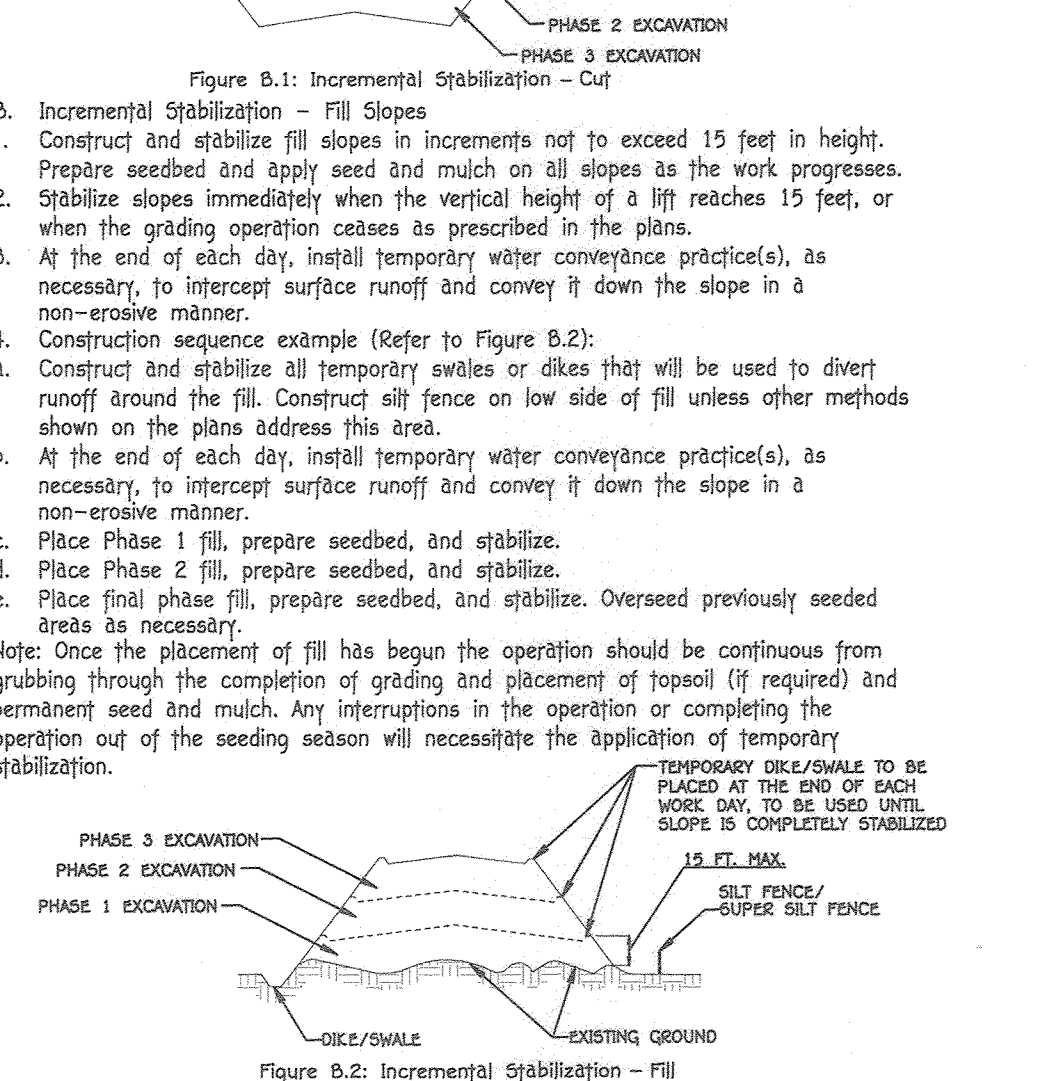

Figure B.1: Incremental Stabilization - Cut
c. Construction sequence example (Refer to Figure B.1):